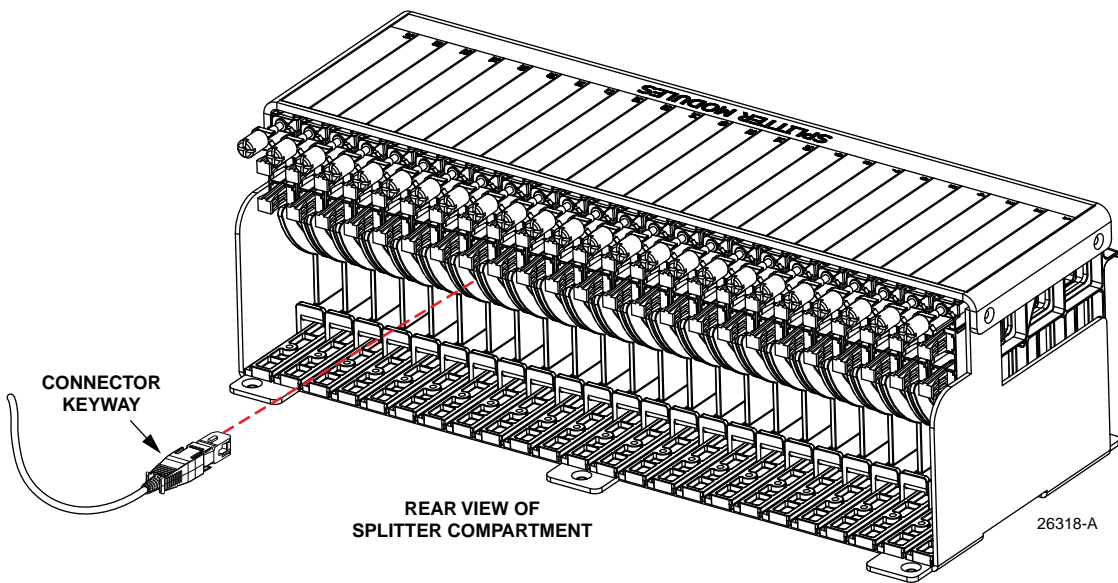

Figure 38. Feeder Cable Connector
9. Insert the feeder fiber connector into the appropriate bulkhead adapter (remove dust cap from adapter) at the rear of the splitter compartment as shown in Figure 38.